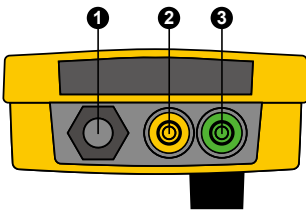

Figure 3. Top of the Product
2. Connect meter set to Duty Cycle to the Control Pilot (CP) terminals located on the top of the adapter. See Figure 3, use items **2** and **3**. Make sure to connect COM input of the meter to the Green (Ground) output of the CP terminal.